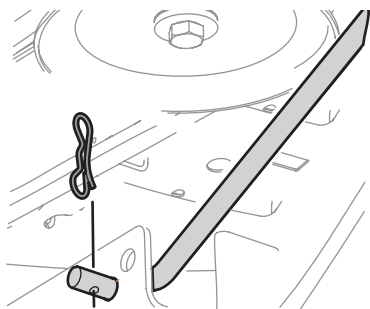

Figure 42
14. Pull the bow-tie pin out of the front deck lift rod securing it to the deck. See Figure 42. Slide the deck lift rod out of the front hanger bracket.